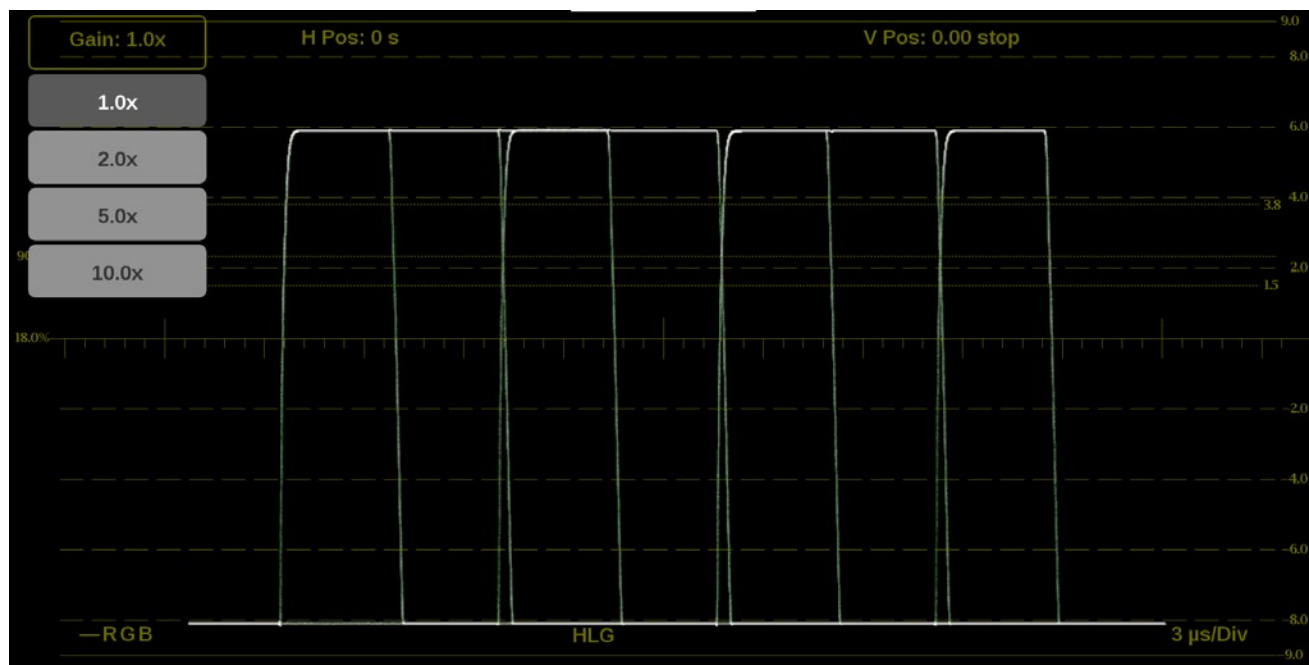

Figure 196: Stop Display on-screen tools–Gain
1. Select the **Gain** button to expand the available magnification options drop-down list. (See Figure 196.)